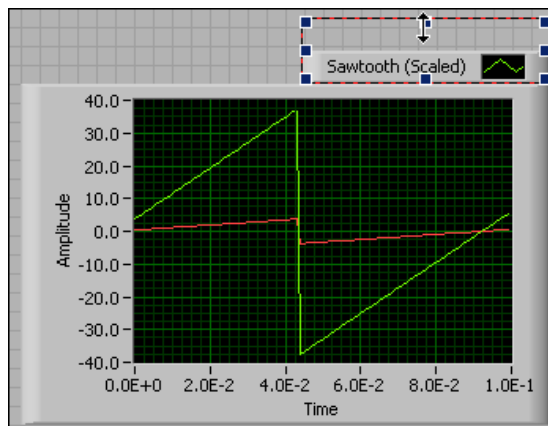

Figure 2.25
2. When a double-headed arrow appears, shown in Figure 2.25, click and drag the border of the plot legend until the second plot name appears.